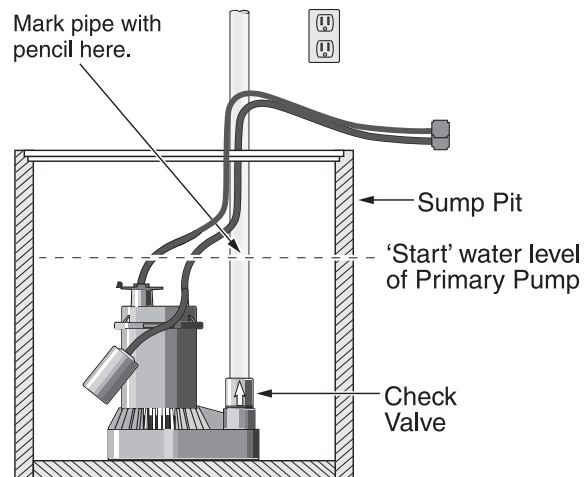

Figure 1: Mark pipe at 'start' water level
1. Locate the high water level in your sump pit (the water level at which the existing (primary) sump pump starts - see Figure 1). Turn off power to pump and mark this point on the discharge pipe with a pencil or marker.